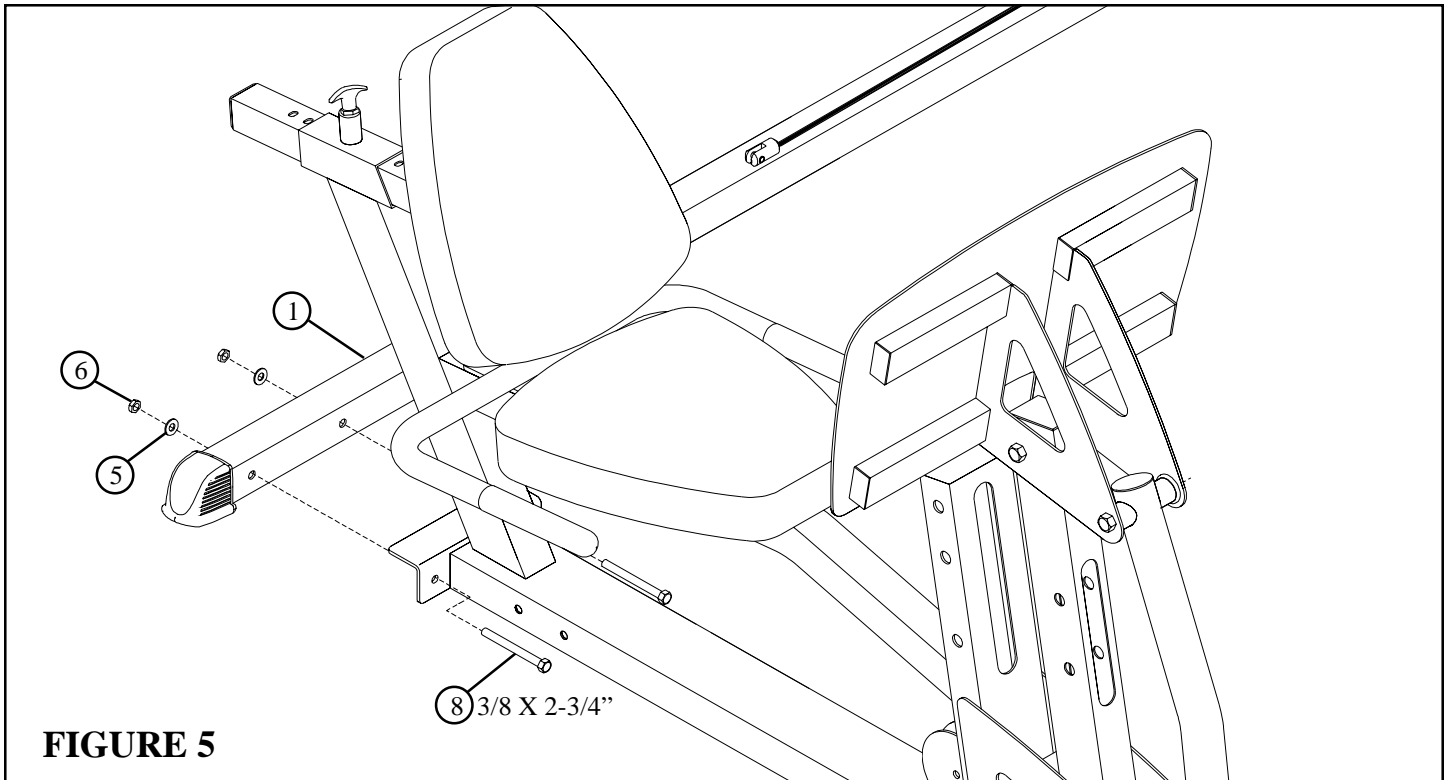

FIGURE 5
- **SECURELY** attach the LP5 LEG PRESS to the FRONT LEG (1) using two 3/8" X 2-3/4" BOLTS (8), two 3/8" WASHERS (5), and two 3/8" LOCK NUTS (6). See FIGURE 5.